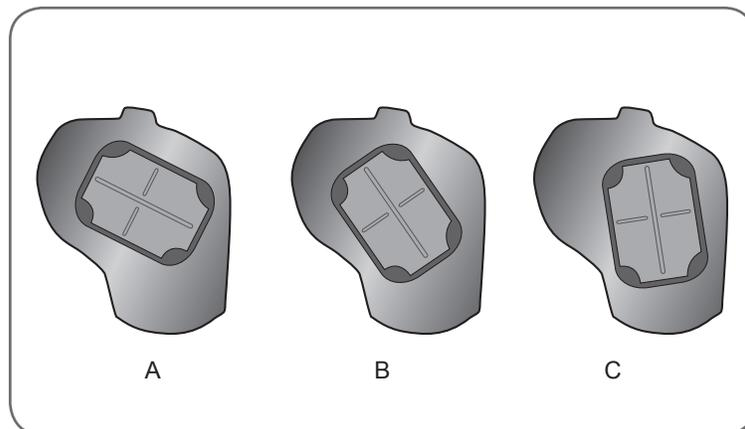

Figure 6-18: Flexor fitting panels.
1. Select a flexor fitting panel that will elicit the desired hand movement. See Figure 6-18.